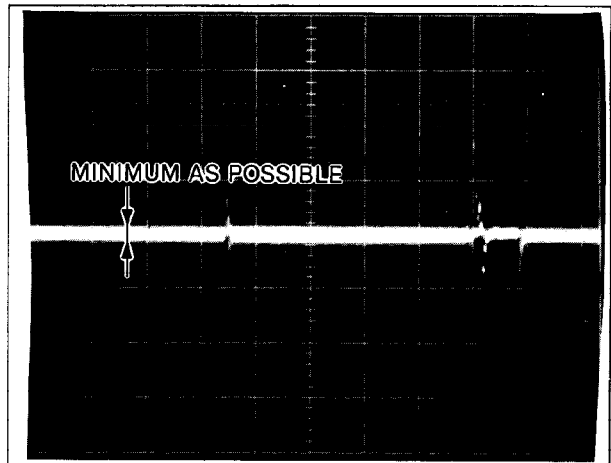

Fig. E16 After ADJ.
3. Adjust VR304 so that waveform becomes minimum as shown in Fig.E16.